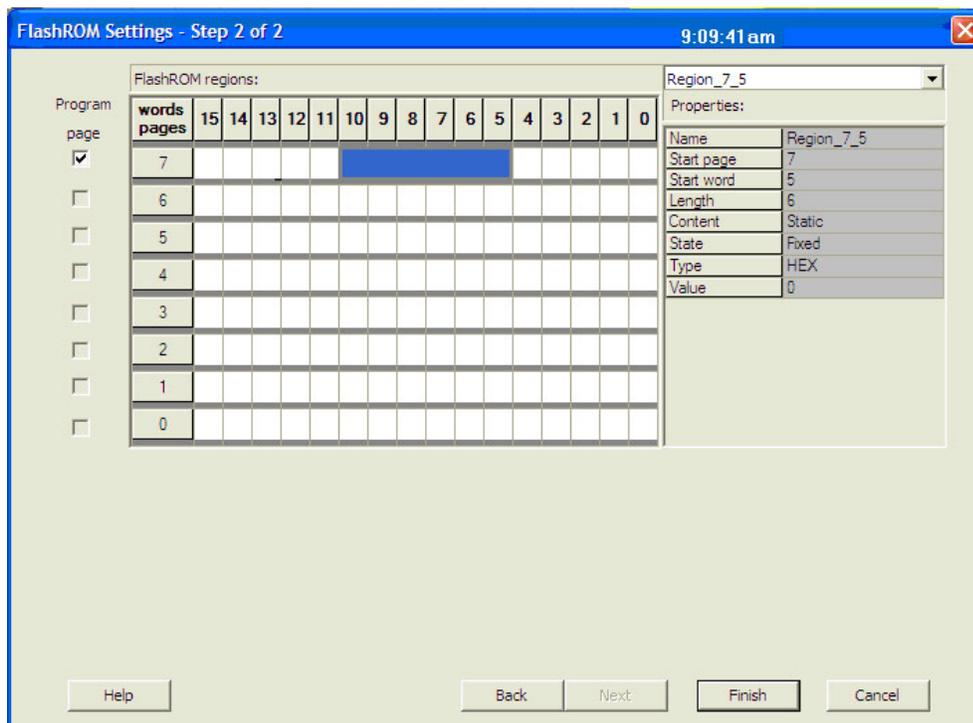

Figure 17-13 • FlashROM Configuration Settings for Low Power Flash Devices
- Choose the desired settings for the FlashROM configurations to be programmed (Figure 17-13). Click **Finish** to generate the STAPL programming file for the design.